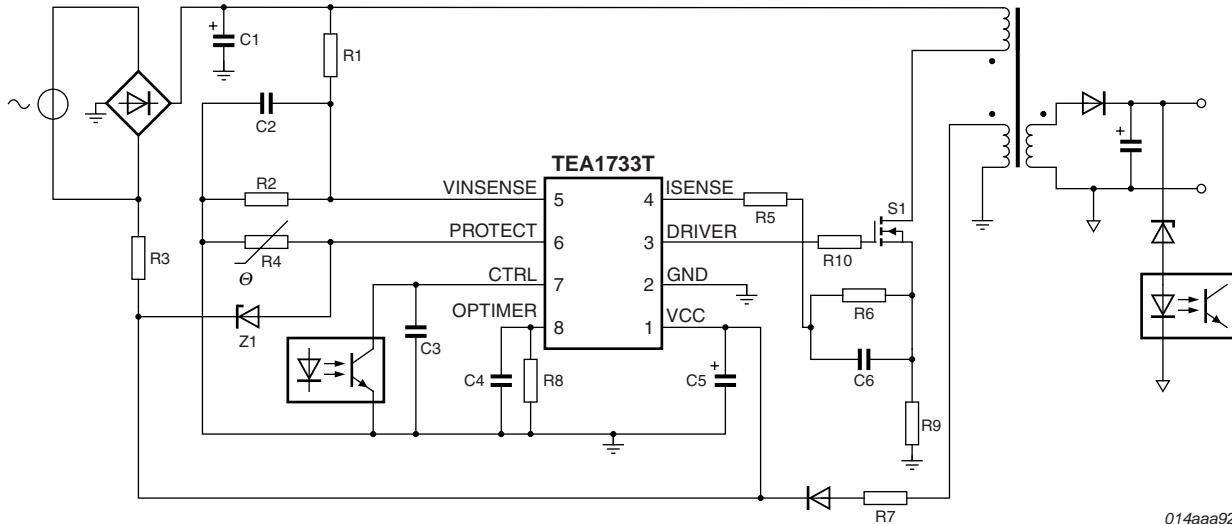
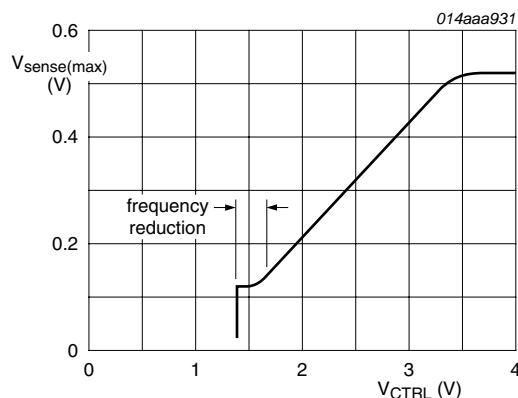
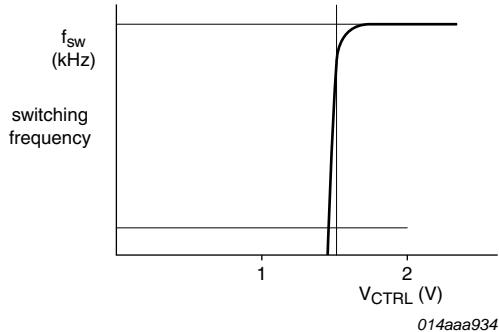

Fig 3. Typical configuration
Fig 7. Peak current control using pin ISENSE
Fig 10. Frequency control
The TEA1733(L) contains a flyback circuit controller, a typical configuration of which is shown in Figure 3.
If the OPTIMER pin is connected to capacitor C4 (see Figure 3), a temporary overload situation is allowed. $V_{ctrl(I_{peak})}$ (see Figure 1) is set by the CTRL. When $V_{ctrl(I_{peak})}$ is above 400 mV, the $I_{O(OPTIMER)}$ current (11 μ A typical) is sourced from the OPTIMER pin. If the voltage on the OPTIMER pin reaches the $V_{prot(OPTIMER)}$ voltage (2.5 V typical) the OverPower Protection (OPP) is triggered (see Figure 5).
The primary current is sensed by the ISENSE pin across an external resistor R9 (see Figure 3) and compared with an internal reference voltage. The internal reference voltage is proportional to the CTRL pin voltage (see Figure 7).
A soft start is made to prevent audible noise during start-up or a restart condition. Before the converter starts, the soft start capacitor C6 (see Figure 3) on the ISENSE pin is charged. When the converter starts switching, the primary peak current slowly increases as the soft start capacitor discharges through the soft start resistor (R6, see Figure 3).
In low power operation switching losses are reduced by lowering the switching frequency. The converter switching frequency is reduced and the peak current is set to 25 % of the maximum peak current (see Figure 7 and Figure 10).